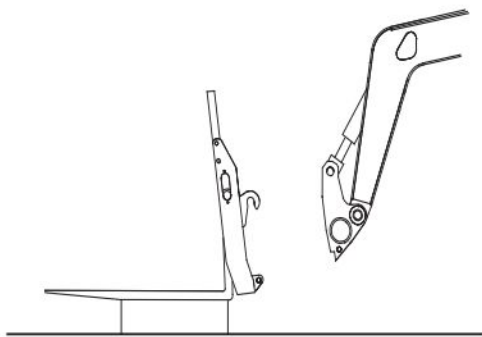

Figure 2-17-1
7. Retract boom, disengaging the attachment (see Figure 2-17-1).